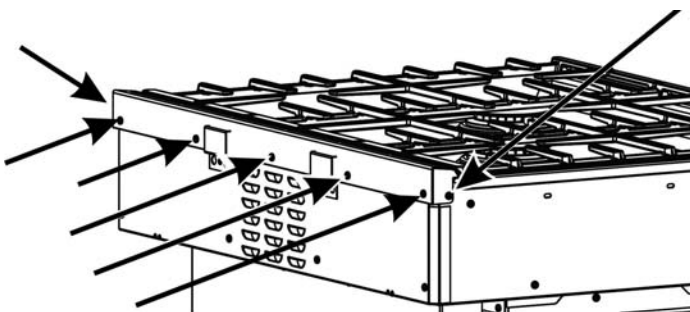

Figure 6: Trim screw locations
Can you slide the range out enough to have access to the rear and side rear trim screws? See Figure 6.
4. If the rear of the range does not look like the range in Figure 6, go to the procedure on page 3.
5. Remove the screws holding the trim (five screws on the back and one screw on each end)(see Figure 6). Save these screws for installing the Low Backguard.
8. Secure the Low Backguard with one screw at each end and then hold the Low Backguard in a vertical position while securing the 5 screws in the back (see Figure 6).